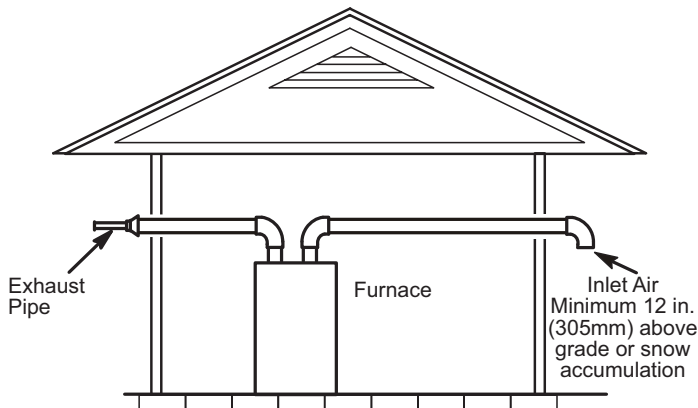
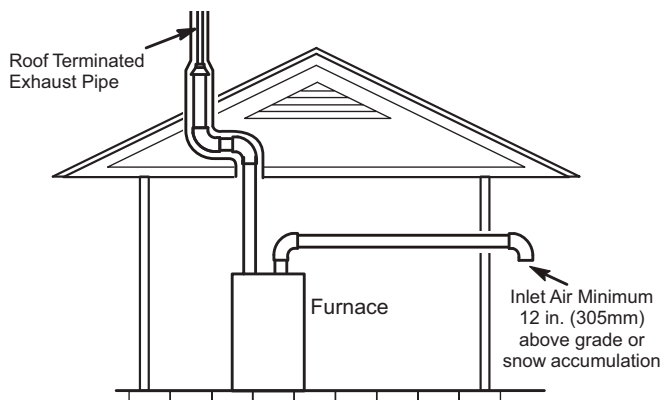

Figure 24. Exiting Exhaust and Intake Vent (no common pressure zone)
Figure 25. Exiting Exhaust and Intake Vent (no common pressure zone)
Intake and exhaust pipes may be routed either horizontally through an outside wall or vertically through the roof. In attic or closet installations, vertical termination through the roof is preferred. **Figure 24** through **Figure 38** show typical terminations.
1. Intake and exhaust terminations are not required to be in the same pressure zone. You may exit the intake on one side of the structure and the exhaust on another side (**Figure 24**). You may exit the exhaust out the roof and the intake out the side of the structure (**Figure 25**).